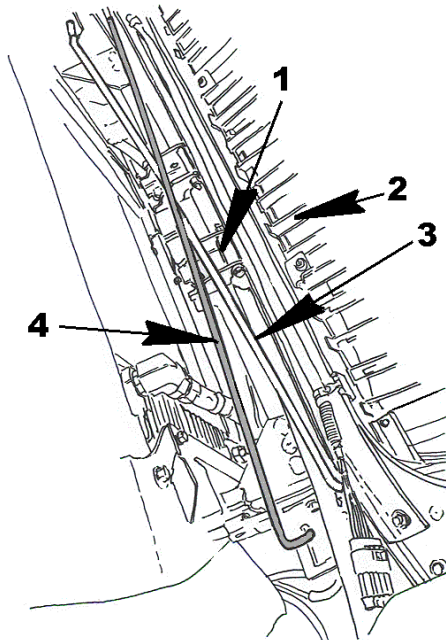
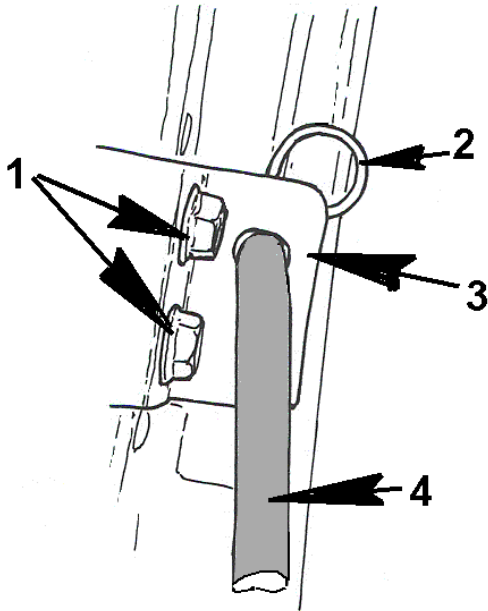
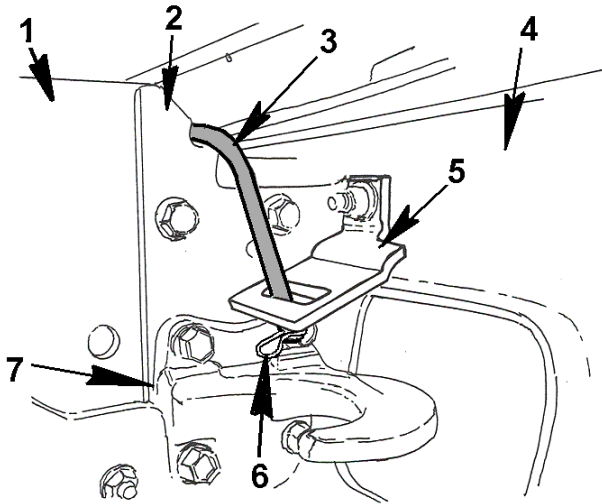

Figure 29 Torsion Bar Assembly
Figure 30 Upper Hood Torsion Bar Retaining clip and Bracket (Driver Side Shown)
Figure 31 Torsion Bar Lower Bracket and Retaining Clip (Passenger Side Shown)
10. The torsion bar assemblies assist in the amount of pull required to open the hood assembly. Torsion bars are attached at each side of the hood, and to the opposite side at the frame. The driver side or (street side) torsion bar is mounted in the passenger side hood bracket and held in place by a retainer clip. This torsion bar drops down and crosses the front of the chassis above the hood hinge assembly. The torsion bar is then inserted into the frame rail retainer bracket and is locked in place with a retainer clip. The passenger side torsion bar is a larger diameter (12.5 mm diameter) and is generally the first to be removed and the last to be replaced. This torsion bar is mounted in the hood bracket on the driver side of the hood assembly (Figure 30, Item 3). This bar drops down and crosses the front of the chassis over the hinge assembly and over the opposite torsion bar (Figure 29, Item 4) to the passenger side (curb side) of the chassis. This torsion bar then ends in the passenger side frame mounted torsion bar retention bracket (Figure 29, Item 5). It is locked in place with a retainer clip (Figure 31, Item 6).
11. Locate the 12.5mm torsion bar hood mounting bracket (Figure 30, Item 3) on the driver side of the hood assembly. Remove the retainer clip (Figure 30, Item 2).
13. Remove the retainer clip from the 12.5mm torsion bar (Figure 31, Item 5) on the passenger side of the frame rail mounting bracket (Figure 31, Item 6).